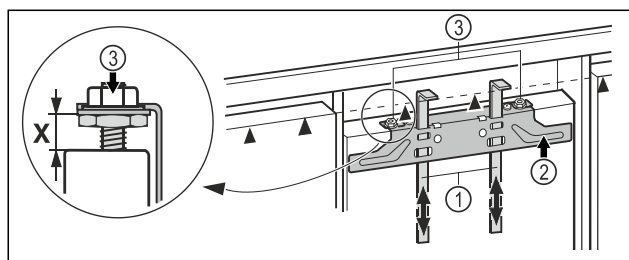

Fig. 41
- Push the assembly aids Fig. 41 (1) up to unit door height. Lower stop edge ▲ of the assembly aid = upper edge of the unit door to be assembled.
- Unscrew the fastening bar Fig. 41 (2) using the lock nuts Fig. 41 (3).